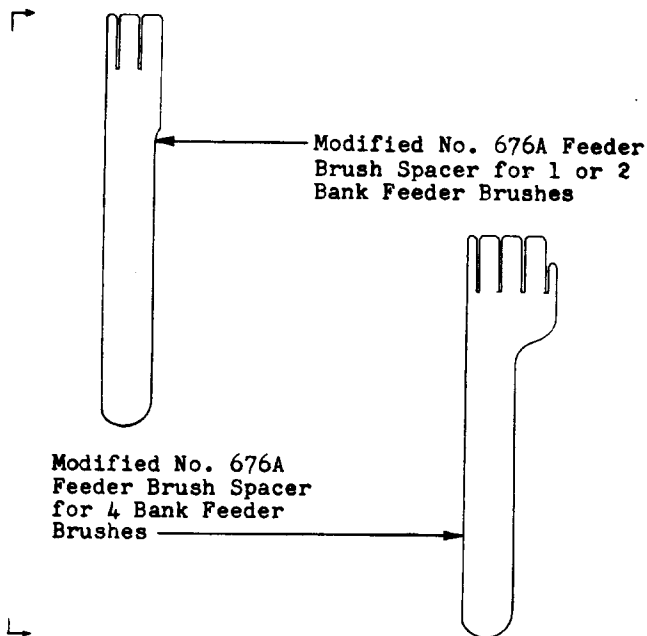

Fig. 12 - Illustrating Modified No. 676A Feeder Brush Spacers for Use With Selectors Equipped With 1-, 2-, and 4-bank Feeder Brushes
3.005 Modification of No. 676A Feeder Brush Spacers: Since the No. 676A feeder brush spacer cannot be used satisfactorily on switches associated with banks having 1, 2, or 4 feeder brushes, it will be necessary to modify one of these tools for use with each of these types of switches. Do this by sawing off the sides of the tools with a hacksaw as indicated in Fig. 12.